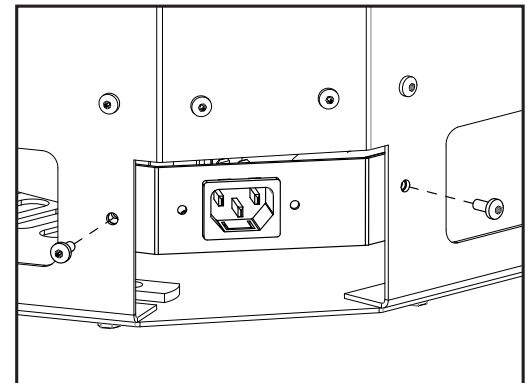

Figure 82: Electrical Plug Disconnect
1. Disconnect the IEC outlet plate (see Figure 82).